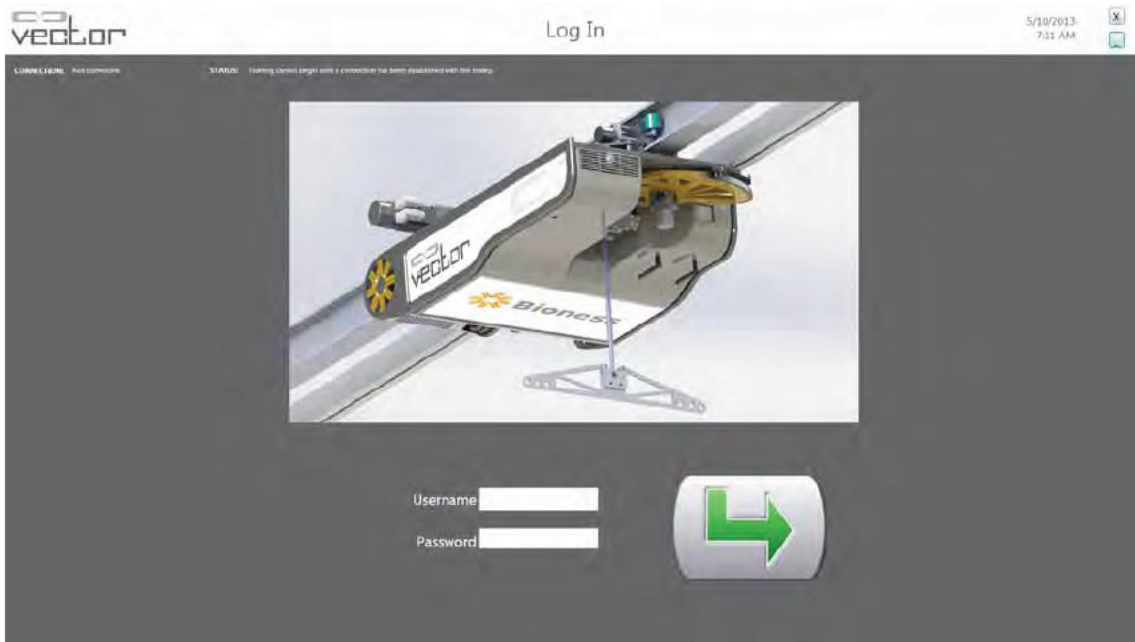

Figure 4-2: Login Screen
2. The Login screen will appear, enter in your username and password. Click on the green arrow to login and proceed to the Main Menu. See Figure 4-2.